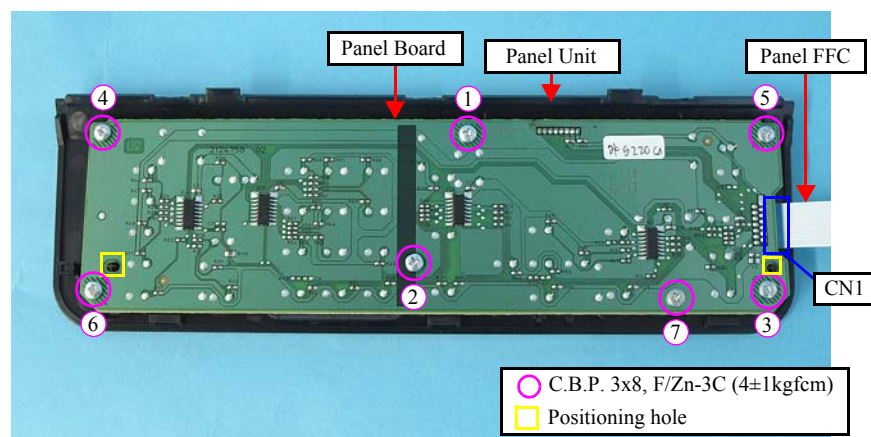

Figure 4-26. Removing the Panel Unit (2)
- When installing the Panel Board, make sure to match the positioning holes (x2) with their positioning pins of the Panel Cover as shown in Figure 4-26.
- When installing the Panel Board, tighten the screws in the order given in Figure 4-26.